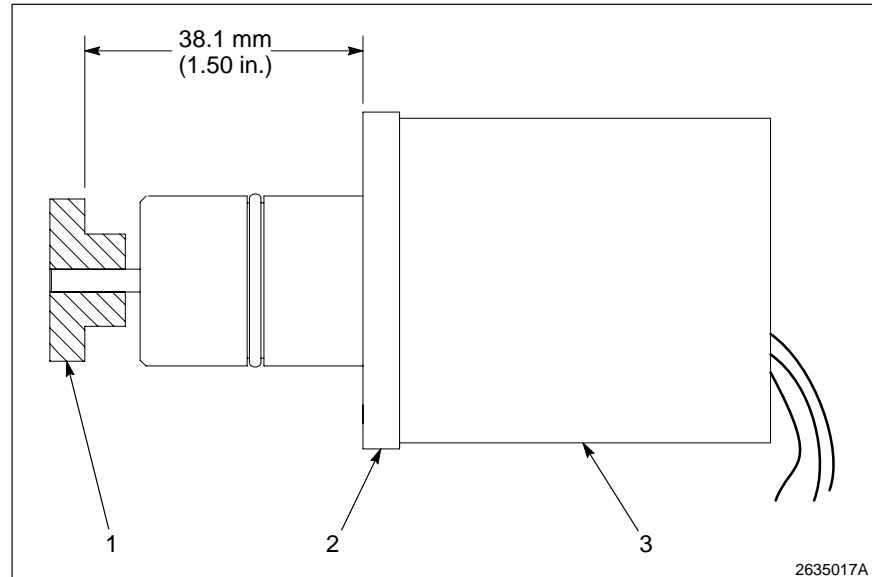

Fig. 7-10 Gear Alignment
5. See Figure 7-10. If the gear (1) was removed from the motor:
- a. Make sure the motor adapter (2) and O-ring are attached to the motor (3).
- b. Attach the gear (1) to the motor shaft at a distance of 38.1 mm (1.50 in.) from the edge of the motor adapter.